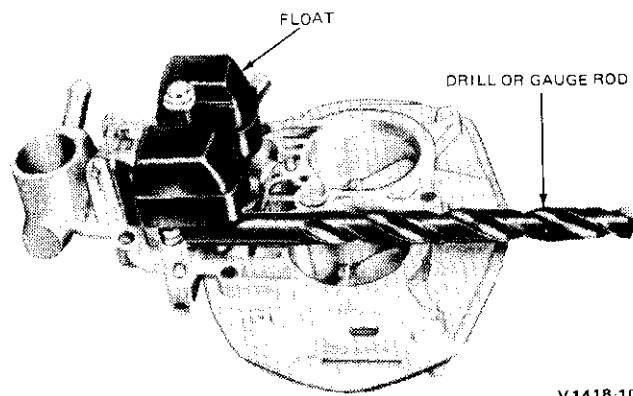
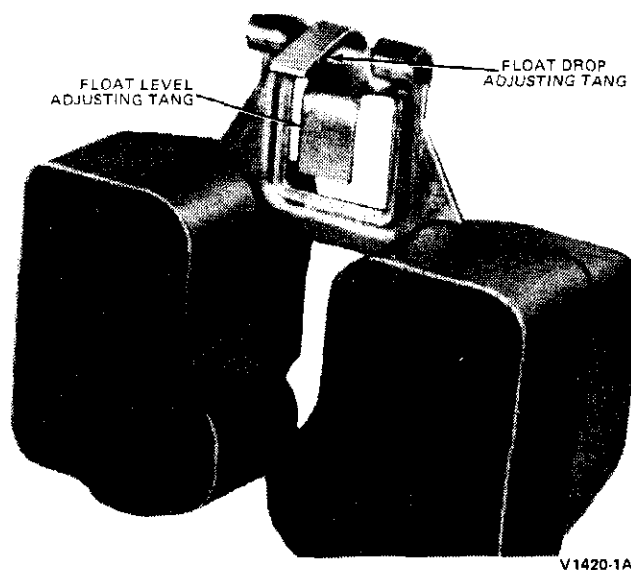

FIG. 11 Dry Float Setting
FIG. 12 Float Adjustment
of the float and the bowl cover (Fig. 11). To adjust the clearance, bend the float tang up or down as required (Fig. 12). **Do not scratch or damage the tang.**
3. Install vent valve cover/solenoid with (3) screws and tighten securely.
7. Hold the bowl cover in an inverted position and adjust the dry float setting (Fig. 11).
8. Hold the cover in its normal position and adjust the float drop (Fig. 12).